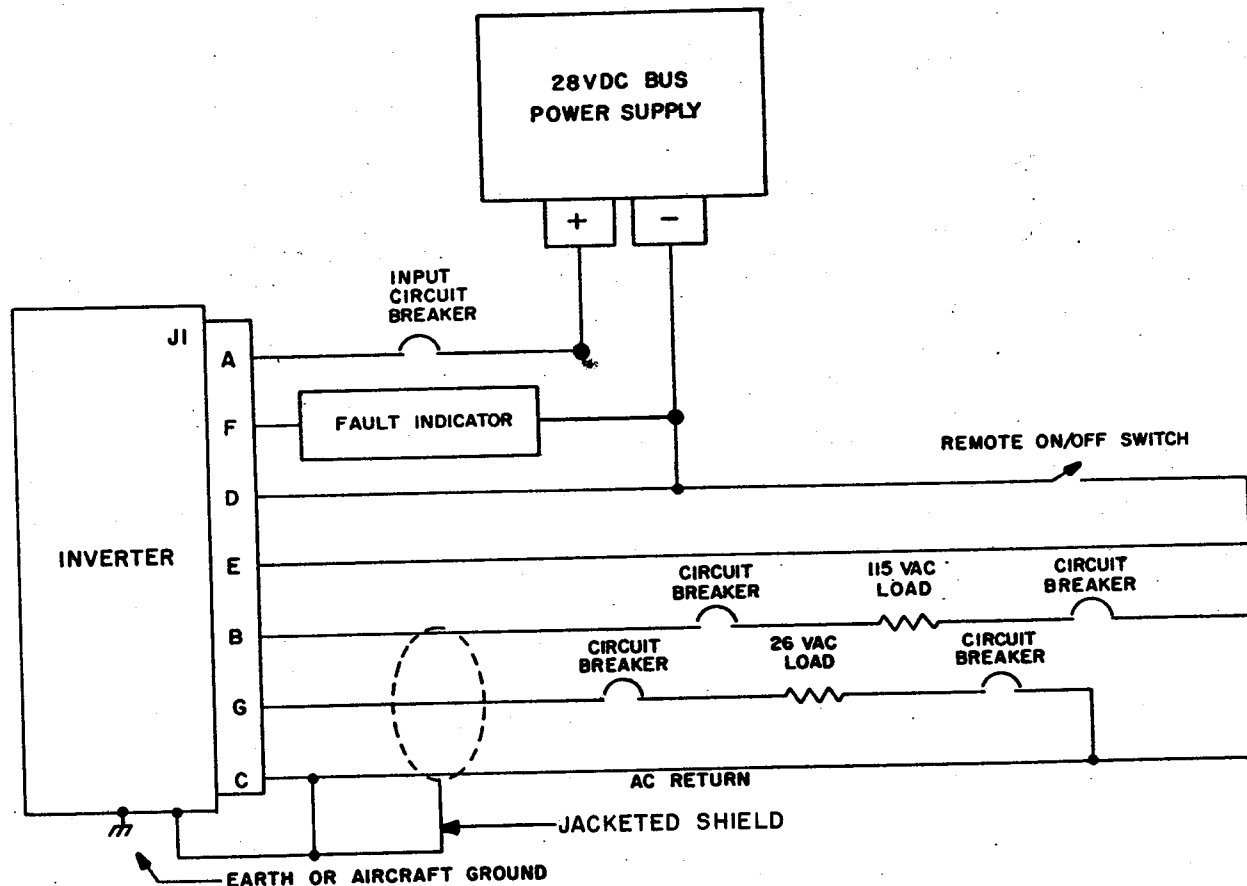

FIGURE 3
a) Single Inverter Configuration - Refer to Figure 3